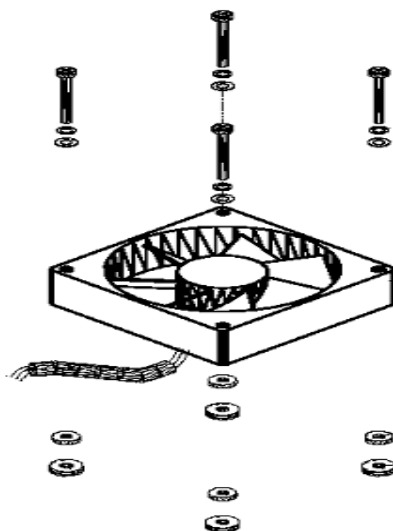

Figure 8-38 Fan Part Details
- 3) Mount each fan with four Isodamp Grommets and Insulation Sleeves underneath the top of the crate, as shown in Figure 8-38 on page 8-43.